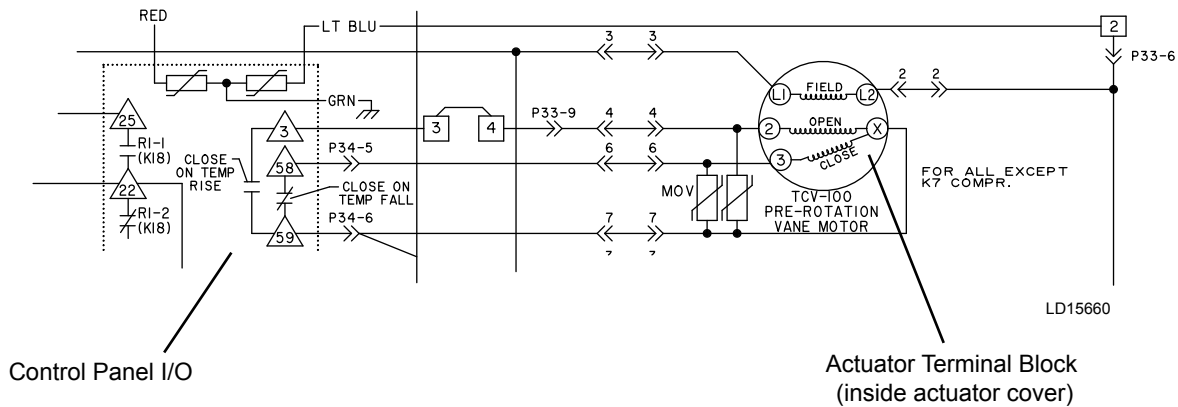

FIGURE 3 - ACTUATOR MOTOR TERMINAL BLOCK WIRING TO CONTROL PANEL I/O BOARD
Referencing Figure 3 on page 4 and Figure 4 on page 4 of this document, 120 vac is supplied to actuator terminals L1 (120 vac “hot”) and L2 (120 vac “common”) and is the power source for the actuator. When power is applied to the control panel, 120 vac will be present on terminals L1 and L2 through a fuse or circuit breaker.
Driving the actuator in the open direction (CW) - Referencing Figure 3 and Figure 4, terminal X is the “common” connection for the open and close windings on the actuator terminal block. When the micro board is commanding the vanes to open, a triac on the I/O board will turn ON, effectively shorting terminals 59 and 3 on the I/O board. Notice that it is also effectively “shorting” terminals X to 2 in the actuator, which will drive the actuator in the open direction.
Driving the actuator in the closed direction (CCW) - Referencing Figure 3 and Figure 4, terminal X is the “common” connection for the open and close windings on the actuator terminal block. When the micro board is commanding the vanes to close, a triac on the I/O board will turn ON, effectively shorting terminals 59 and 58 on the I/O board. Notice that it is also effectively “shorting” terminals X to 3 in the actuator, which will drive the actuator in the closed direction.